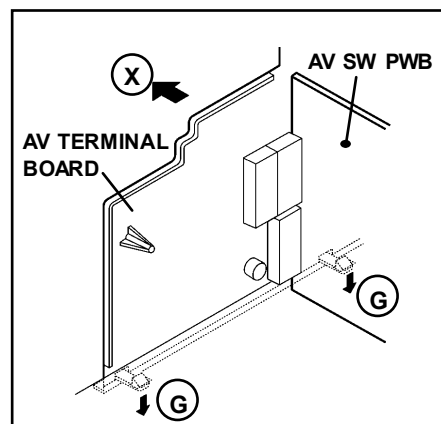

Fig. 3
2. Remove the 2 claws marked **G** under the CHASSIS as shown in Fig. 3.
3. Remove the AV TERMINAL BOARD slightly in the direction of arrow **X** as shown in Fig. 3.